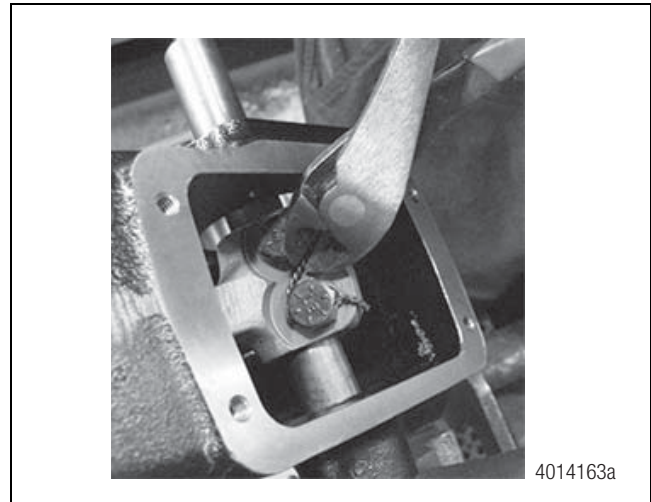

Figure 5.13
7. Cut and remove the safety wire on the shift fork bolts and remove the bolts. Figure 5.13.